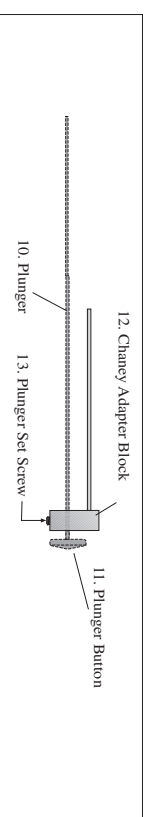

Figure 5
Install Reproducibility Adapter (part number 32148) on any Hamilton Series 900 MICROLITER syringe. This model uses a collar and a stop rod assembly to control volume. Follow these steps to install the Chaney adapter (part number 32148). Refer to Figures 5, 6, and 7 for part numbers (in parentheses) in the text.
2. Insert the plunger (10) into the Chaney adapter. With the plunger button (11) within 1/2" of the Chaney adapter block (12) tighten the plunger set screw (13) (Figure 5).